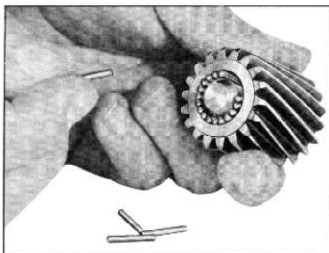

Fig. 114—Assembling Needle Bearings to Pinion
14. Using tool J-4599, assemble needle bearing spacer and needle bearings (20 in each end) in one of the long planet pinions (fig. 114). Use cup grease to aid in assembling and holding the needle bearings in position.